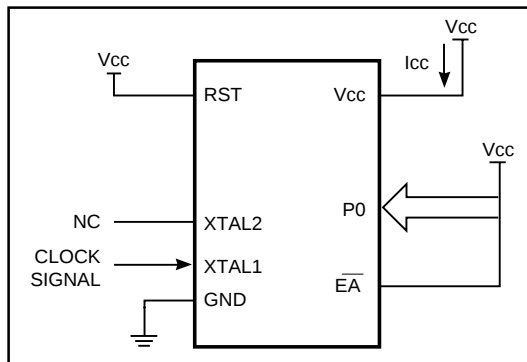

Figure 11. Active Mode
1. See Figures 11, 12, 13, and 14 for I_{cc} test conditions.